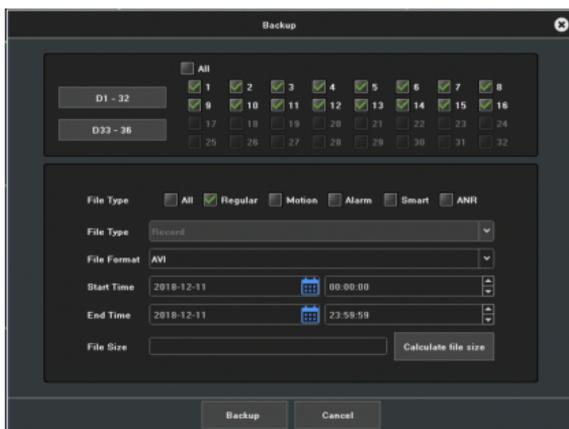

Figure 4.9 Backup Interface
- 4) Click on the  button to enter the backup interface as shown in Figure 4.9.